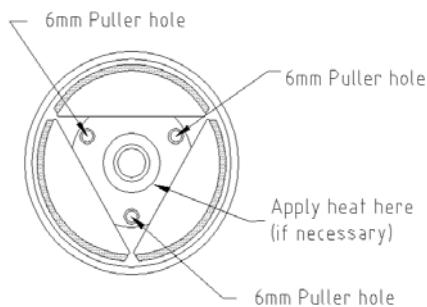

Figure 30
3. Attach the Universal Puller. There are three 6mm clutch puller holes located on the ends of the center hub. (figures 30 & 31)